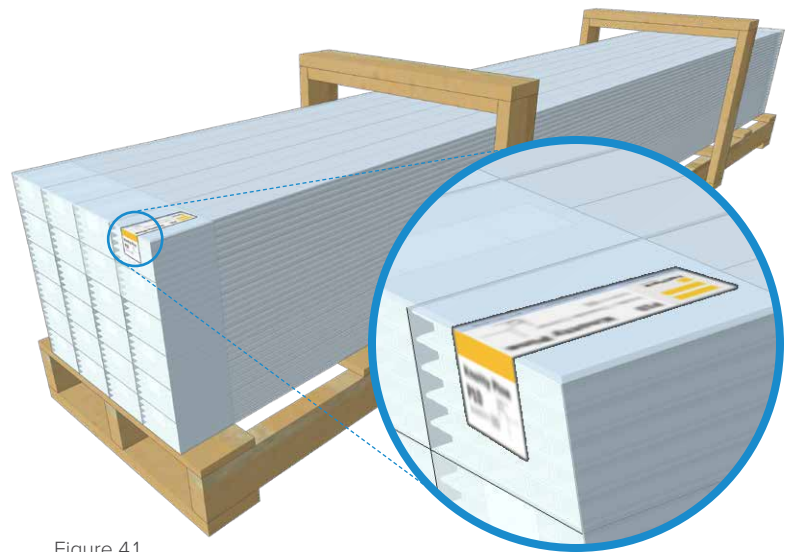

Figure 4.1
- ✓ Trim material will be received on a pallet (Figure 4.1). Pallet size will vary (typical pallet size is 10' L x 33" W x 24"-32" T).